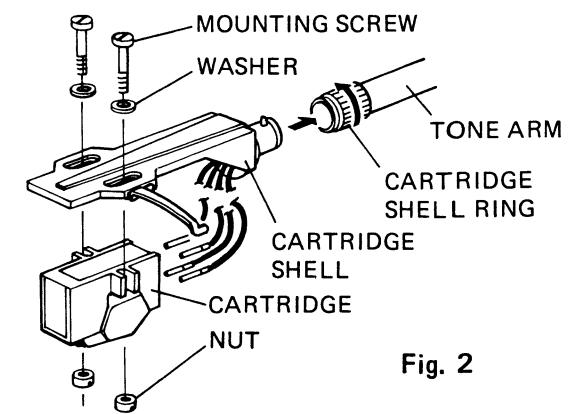

Fig. 2
- Plug cartridge shell into tone arm and tighten the cartridge shell ring by turning it counter-clockwise (See Fig. 2)